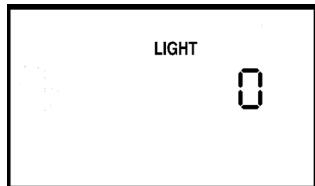

Figure 6-11 LED Backlight Setting Screen
1. From either the Monitoring or Standby screens, press the **Right User** button until the LED Backlight Setting screen appears, as shown in Figure 6-11.